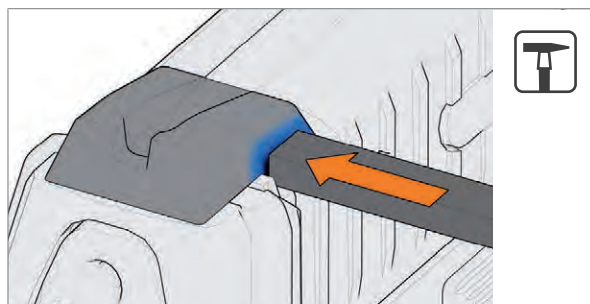

Fig. 28: Remove rear sight
1. Remove rear sight with tool (Fig. 28).